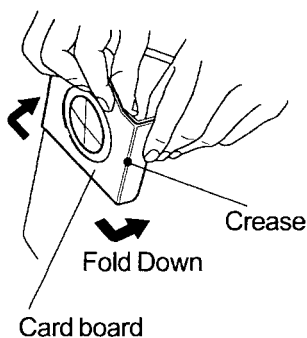

Fig. 11
Insert the paper dust bag's suction hole into the stainless tank's suction port (Fig. 11).
- (1) Before mounting the paper dust bag to the dust collector, fold down two creases of the cardboard as shown in (Fig. 11).